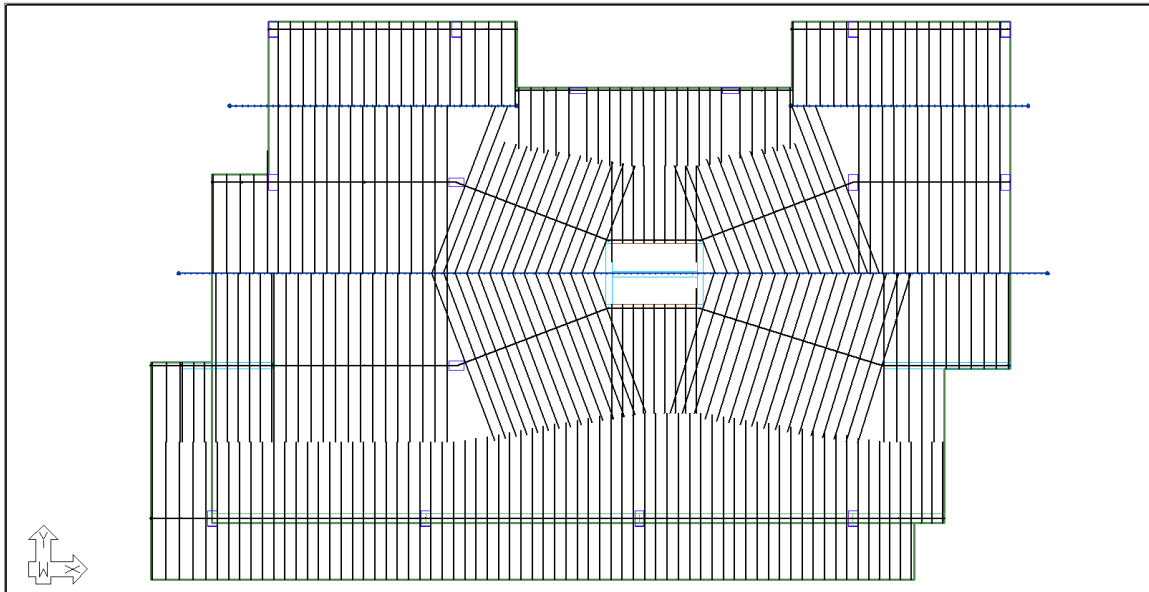

FIGURE 9-27
- Go to *Floor Design* -> *Section Design* and click on the **Generate Sections**  icon. When the process is completed, the user should see design sections cut as shown in **FIGURE 9-27**.